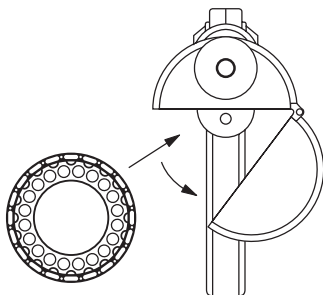

Figure 1
3. To load the Compudose/Encore Implanter remove the cartridge from the package, release the latch on the magazine, open and insert the cartridge. (Figure 1)